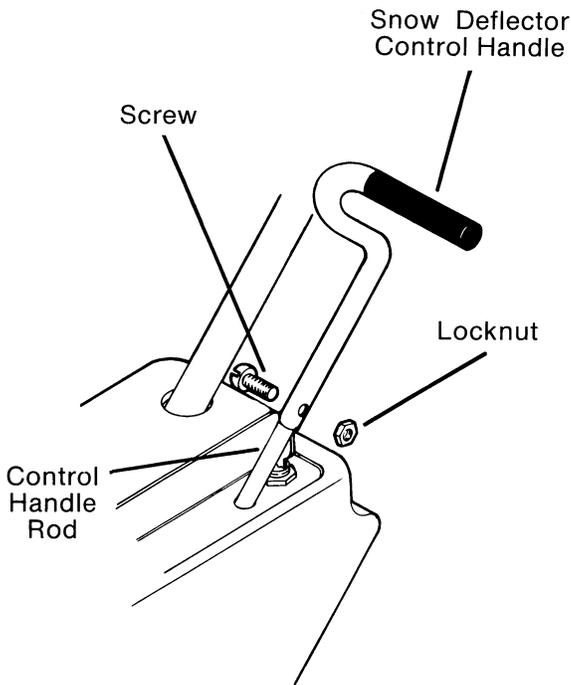

FIG. 6
- O. Slide snow deflector control handle over the rod next to ignition switch. (Fig. 6) Line up holes in handle and rod and secure handle in place with the screw and locknut. (Fig. 6)